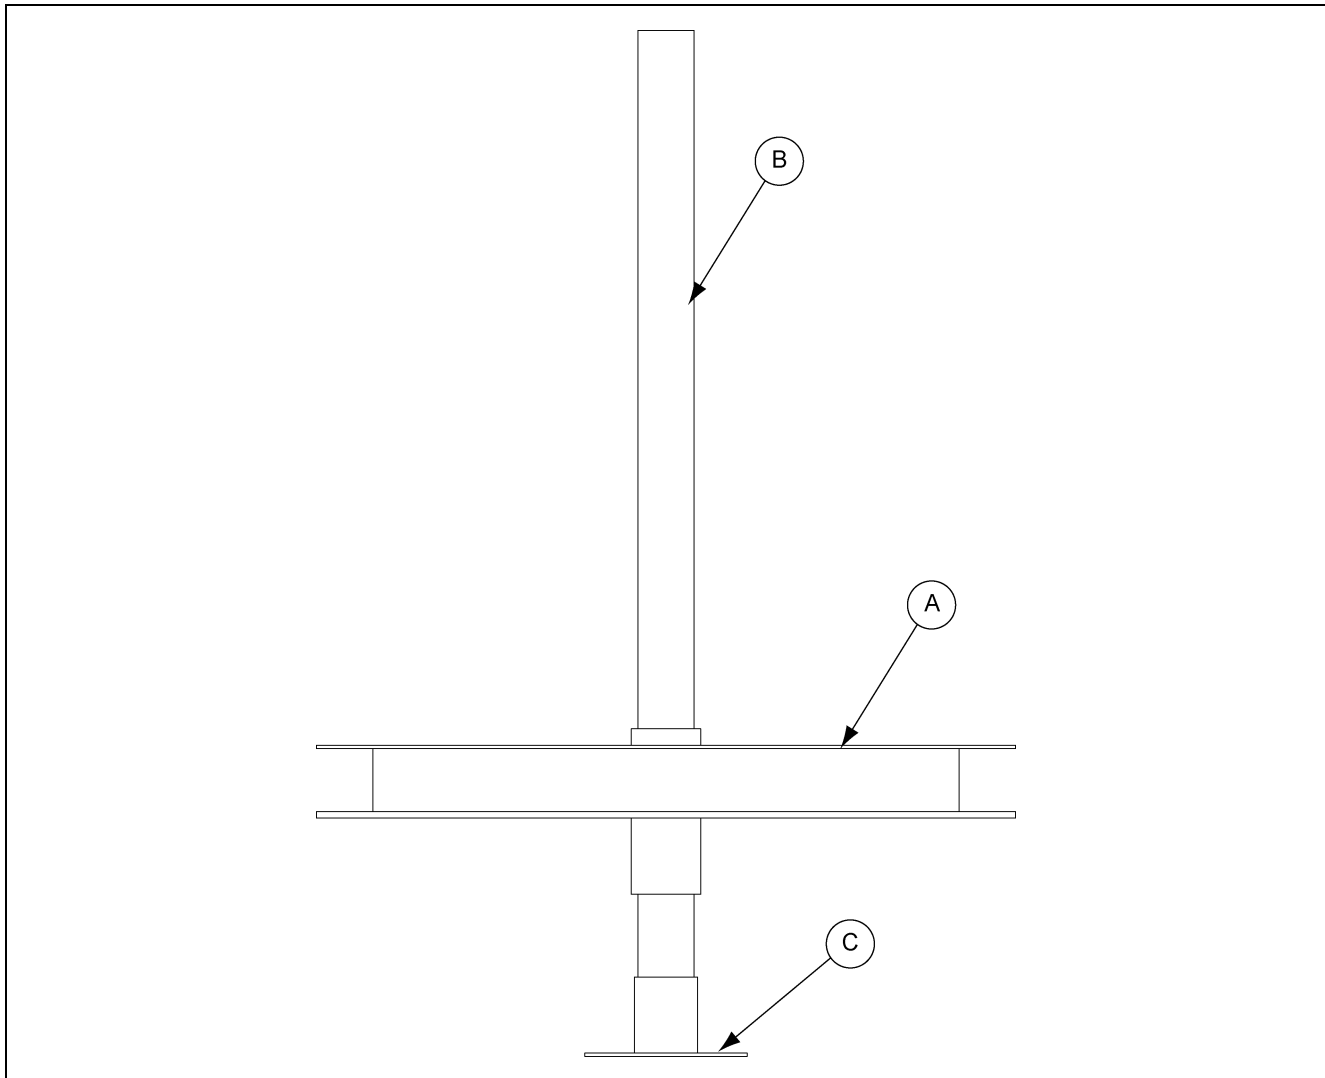

Figure 5B
Once the top cable wheel (A) has been installed the next piece to assemble is the coupler connector weldment (C). This piece threads onto the threads of the distributor control pipe (B) as shown in Figure 5B below. Make sure the coupler connector weldment is secured to the distributor control pipe.